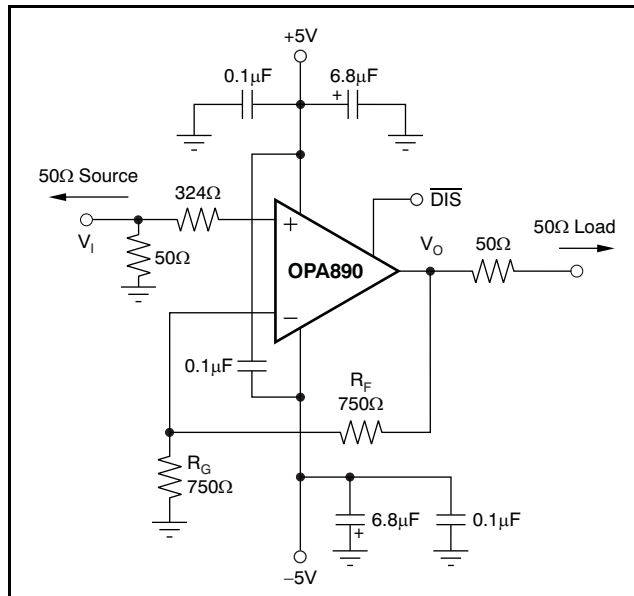
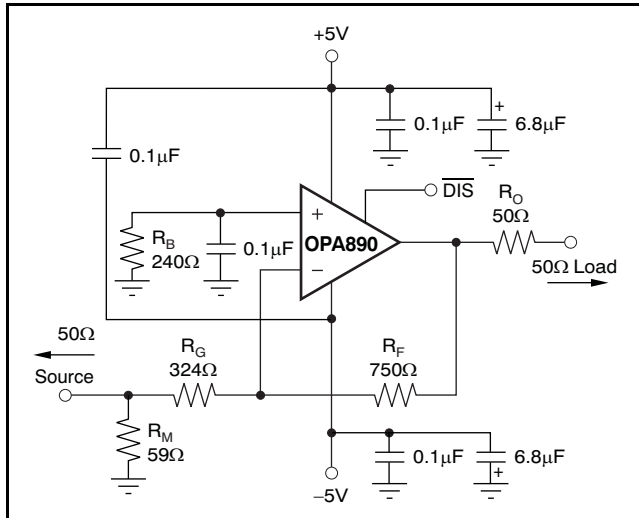

Figure 46. DC-Coupled, G = +2, Bipolar Supply, Specification and Test Circuit
Figure 51. Gain of $-2V/V$ Example Circuit
Figure 46 shows the dc-coupled, gain of +2, dual power-supply circuit configuration used as the basis of the $\pm 5\text{V}$ Electrical Characteristics and Typical Characteristics. For test purposes, the input impedance is set to 50Ω with a resistor to ground and the output impedance is set to 50Ω with a series output resistor. Voltage swings reported in the Typical Characteristics are taken directly at the input and output pins, while output powers (dBm) are at the matched 50Ω load. For the circuit of Figure 46, the total effective load will be 100Ω – $1.5\text{k}\Omega$. The disable control line is typically left open to ensure normal amplifier operation. Two optional components are included in Figure 46. An additional resistor (324Ω) is included in series with the noninverting input. Combined with the 25Ω dc source resistance looking back towards the signal generator, this configuration gives an input bias current cancelling resistance that matches the 375Ω source resistance seen at the inverting input (see the DC Accuracy and Offset Control section). In addition to the usual power-supply decoupling capacitors to ground, a $0.1\mu\text{F}$ capacitor is included between the two power-supply pins. In practical printed circuit board (PCB) layouts, this optional-added capacitor typically improves the 2nd-harmonic distortion performance by 3dB to 6dB.
Voltage-feedback op amps exhibit decreasing closed-loop bandwidth as the signal gain is increased. In theory, this relationship is described by the gain bandwidth product (GBP) shown in the *Electrical Characteristics*. Ideally, dividing GBP by the noninverting signal gain (also called the noise gain, or NG) predicts the closed-loop bandwidth. In practice, this relationship only holds true when the phase margin approaches 90° , as it does in high-gain configurations. At low gains (increased feedback factors), most amplifiers exhibit a more complex response with lower phase margin. The OPA890 is compensated to give a slightly peaked response in a noninverting gain of $2V/V$ (see Figure 46). This compensation results in a typical gain of $+2V/V$ bandwidth of $115MHz$, far exceeding that predicted by dividing the $130MHz$ GBP by 2. Increasing the gain causes the phase margin to approach 90° and
The OPA890 is a general-purpose, wideband voltage-feedback op amp; therefore, all of the familiar op amp application circuits are available to the designer. Inverting operation is one of the more common requirements and offers several performance benefits. Figure 51 shows a typical inverting configuration where the I/O impedances and signal gain from Figure 46 are retained in an inverting circuit configuration.
In the inverting configuration, three key design considerations must be noted. First, the gain resistor (R_G) becomes part of the signal channel input impedance. If input impedance matching is desired (which is beneficial whenever the signal is coupled through a cable, twisted-pair, long PCB trace, or other transmission line conductor), R_G may be set equal to the required termination value and R_F adjusted to give the desired gain. This approach is the simplest, and results in optimum bandwidth and noise performance. However, at low inverting gains, the resultant feedback resistor value can present a significant load to the amplifier output. For an inverting gain of $-2V/V$, setting R_G to 50Ω for input matching eliminates the need for R_M but requires a 100Ω feedback resistor. This option has the interesting advantage that the noise gain becomes equal to $2V/V$ for a 50Ω source impedance—the same as the noninverting circuits considered in the previous section. The amplifier output, however, now sees the 100Ω feedback resistor in parallel with the external load. In general, the feedback resistor should be limited to a range of 200Ω to $1.5k\Omega$. In this case, it is preferable to increase both the R_F and R_G values, as shown in Figure 51, and then achieve the input matching impedance with a third resistor (R_M) to ground. The total input impedance becomes the parallel combination of R_G and R_M .
The second major consideration, touched on in the previous paragraph, is that the signal source impedance becomes part of the noise gain equation and influences the bandwidth. For the example in Figure 51, the R_M value combines in parallel with the external 50Ω source impedance, yielding an effective driving impedance of $50\Omega \parallel 59\Omega = 27\Omega$. This impedance is added in series with R_G for calculating the noise gain (NG). The resulting NG is $3.14V/V$ for Figure 51, as opposed to only 2 if R_M could be eliminated as discussed previously. The bandwidth is therefore slightly lower for the gain of $-2V/V$ circuit of Figure 51 than for the gain of $+2V/V$ circuit of Figure 46.
The third important consideration in inverting amplifier design is setting the bias current cancellation resistor on the noninverting input (R_B). If this resistor is set equal to the total dc resistance looking out of the inverting node, the output dc error (because of the input bias currents) is reduced to $(\text{Input Offset Current}) \times R_F$. If the 50Ω source impedance is dc-coupled in Figure 51, the total resistance to ground on the inverting input is 351Ω . Combining this resistance in parallel with the feedback resistor gives the value of $R_B = 240\Omega$ used in this example. To reduce the additional high-frequency noise introduced by this resistor, it is sometimes bypassed with a capacitor. As long as $R_B < 350\Omega$, a capacitor is not required because the total noise contribution of all other terms is less than that of the op amp input noise voltage. As a minimum, the OPA890 requires an R_B value of 50Ω to damp out parasitic-induced peaking—a direct short to ground on the noninverting input runs the risk of a very high-frequency instability in the input stage.
Evaluating these two equations for the OPA890 circuit and component values (see Figure 46) gives a total output spot noise voltage of 17.4nV/√Hz and a total equivalent input spot noise voltage of 8.7nV/√Hz. This total includes the noise added by the bias current cancellation resistor (175Ω) on the noninverting input. This total input-referred spot noise voltage is only slightly higher than the 8nV/√Hz specification for the op amp voltage noise alone. This result will be the case, as long as the impedances appearing at each op amp input are limited to the previously recommend maximum value of 350Ω. Keeping both (R_F || R_G) and the noninverting input source impedance less than 350Ω satisfies both noise and frequency response flatness considerations. Because the resistor-induced noise is relatively negligible, additional capacitive decoupling across the bias current cancellation resistor (R_B) for the inverting op amp configuration of Figure 51 is not required.
The balanced input stage of a wideband voltage-feedback op amp allows good output dc accuracy in a wide variety of applications. The power-supply current trim for the OPA890 gives even tighter control than comparable amplifiers. Although the high-speed input stage does require relatively high input bias current (+25°C worst case, 1.6μA at each input terminal), the close matching between them may be used to reduce the output dc error caused by this current. The total output offset voltage may be considerably reduced by matching the dc source resistances appearing at the two inputs. This matching reduces the output dc error resulting from the input bias currents to the offset current times the feedback resistor. Evaluating the configuration of Figure 46, and using worst-case +25°C input offset voltage and current specifications, gives a worst-case output offset voltage equal to: